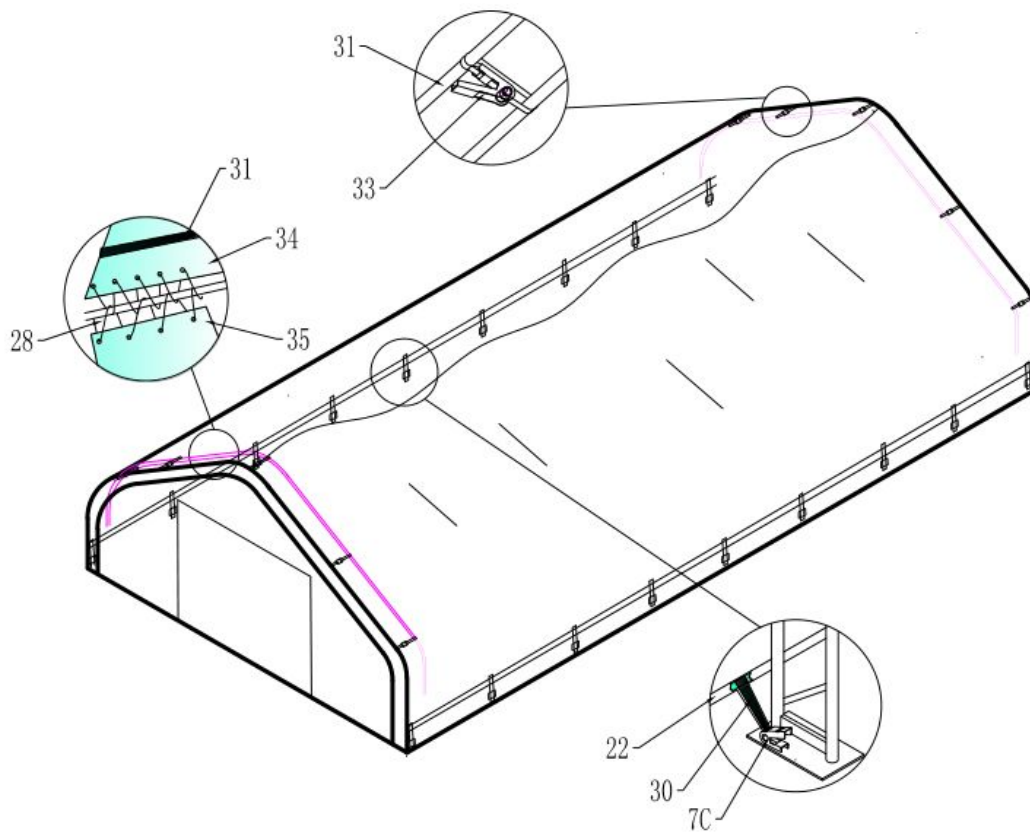

Figure 12
2. As Figure 12 shows, align one side of Roof cover evenly front to back, add band(No.30) for tie down ratchet at each point along the cover opening, Put band for tie down ratchets over cover tension tubes at each base plate along one side. Bands do not attach to tension tubes, but loop around and secure at both ends on ratchet.